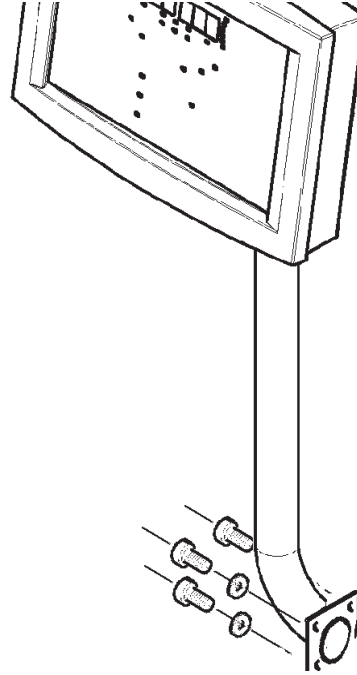

Figure 9
2. Rotate tower 180° clockwise and reinstall the 3 bolts, see Figure 9.